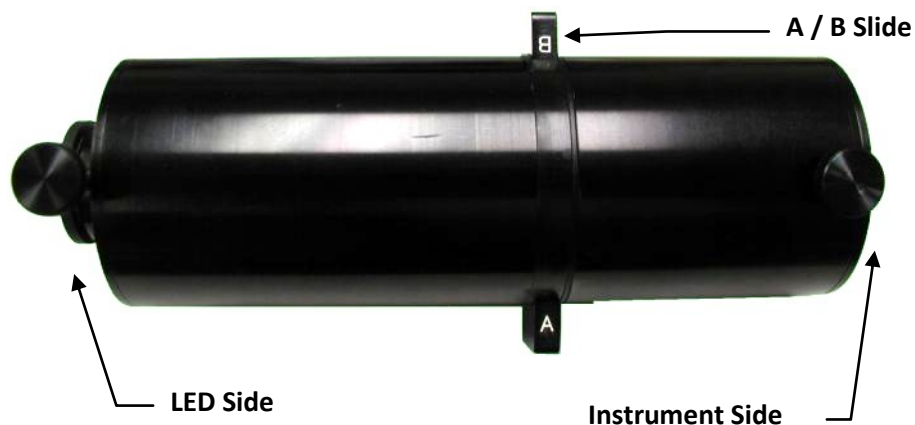

FIGURE 59 - LR-127
2. Remove the lens mount (Instrument Side – see Figure 59) by loosening the thumb screw that secures the mount to the main section of the LR-127.
2. Insert the LED adapter into the main section of the LR-127 (LED Side – see Figure 59) then tighten the thumb screw to secure it.